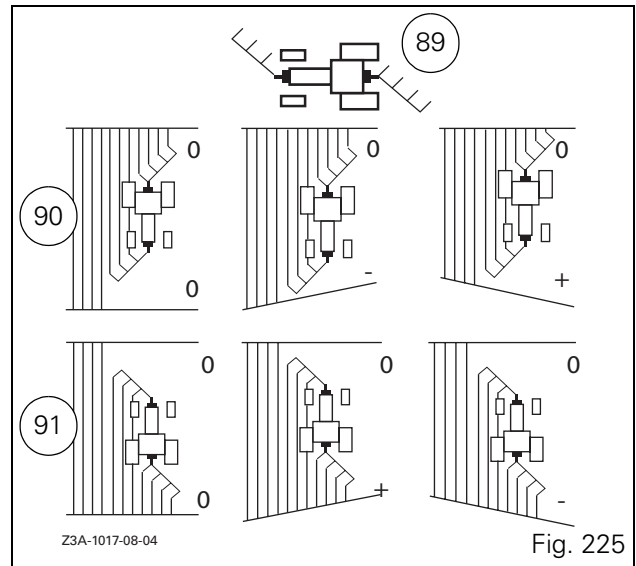
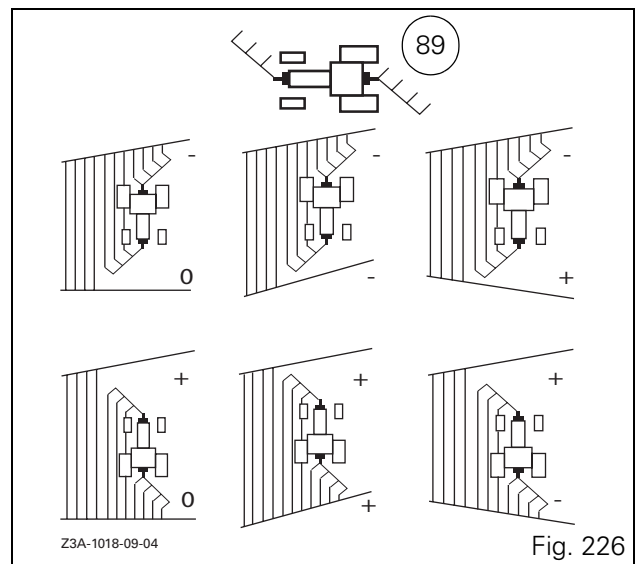

Fig. 225
Fig. 226
- Method for a figure (Fig. 225)
In each figure, various field shapes are represented. The tractor icon (89 Fig. 225, Fig. 226 and Fig. 227) is in transport position at the top of each window.
NOTE: These three figures (Fig. 225, Fig. 226 and Fig. 227) apply in cases where the ploughed earth is tilled to the right of the tractor on the outward run. If the